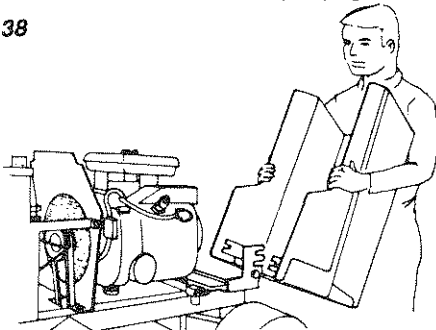

FIGURE 39
- Pivot hood and side panel forward and lift off tractor (Fig. 39).